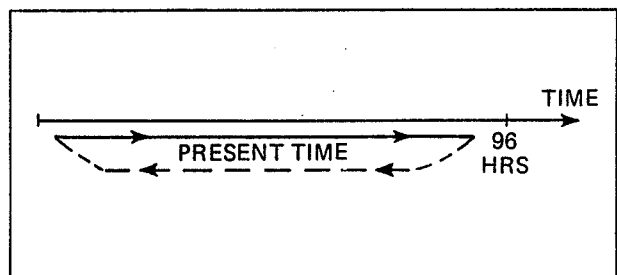

Figure 3.8 - Cycling of Present Time Register
3.4.11.5 The Present Time Register is the most important of the six Time Function registers. At power-up the present time begins incrementing at one-second intervals until it reaches 95.5959 (95 hours, 59 minutes, 59 seconds.). One second later it resets to 00.0000 and begins incrementing again. Figure 3.8 shows the path taken by the Present Timer register as it approaches 96 hours on the time axis and then resets to zero. Note that the Present Time register always increments whether or not the Time function is enabled.